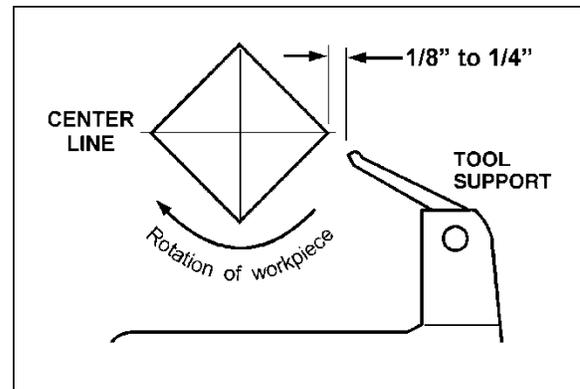

Figure 29
10. Move tool support into position. It should be parallel to the workpiece, just below the centerline and approximately 1/8" to 1/4" from the corners of the workpiece to be turned, as in Figure 29. Tighten support base to lathe bed.